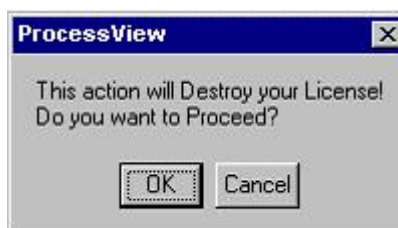

Figure 3.27. Final Warning Message Before License Termination
26. A dialog box will appear to warn you of this danger, as shown in **Figure 3.27**. If you wish to proceed with killing your license, click **OK**.